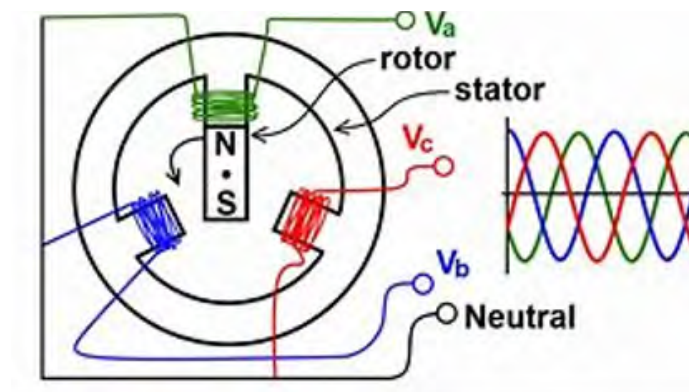

Figure 1.12: 3-phase alternator with revolving field
3. **The three-phase generator (alternator):** Remember in the single-phase AC generator, it was a single loop that rotated in the magnetic field. In the three-phase, however, three different loops are used and are positioned at 120° to one another as shown in Figure 1.12. Note that the loops are windings of copper conductors on a laminated core. Also note that in this type the windings are called the stator and the rotating member is called rotor and carries the magnetic field. This arrangement is made to minimise losses and increase efficiency.